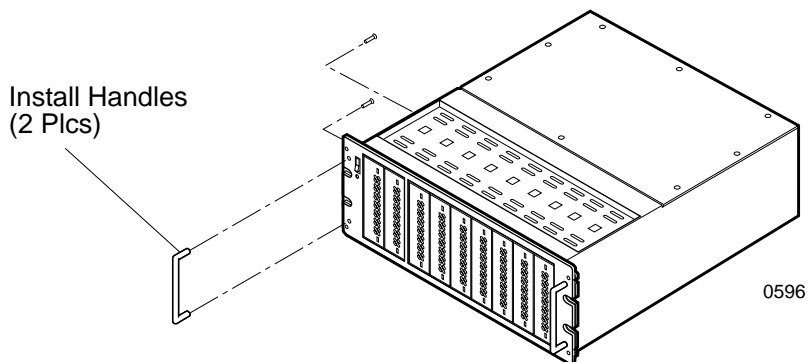

Figure B-5: DS400 Tower-To-Rack Conversion
The DS400 tower model is shipped with two (2) handles and mounting screws located inside a plastic bag in the top cover of the chassis. These handles are provided so that the tower model may be converted to a rack mount configuration. To convert a tower model to a rack mount, remove the tower parts shown in Figure B-3 and attach the two (2) handles to the DS400 chassis with two (2) screws each as shown in Figure B-5.